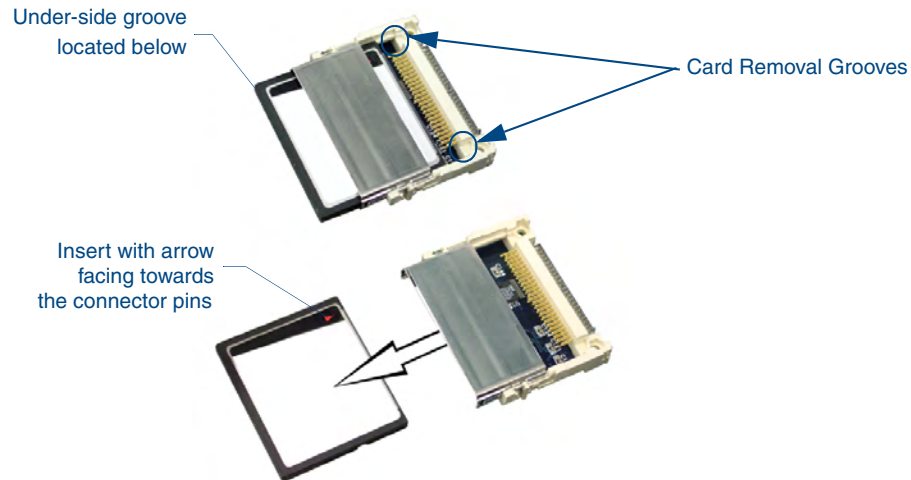

**FIG. 9** Location of the Compact Flash within a sample Integrated Controller
2. Remove the chassis housing screws from both the sides and top of the Controller, as shown in FIG. 9 by using a grounded screwdriver turning in a counter-clockwise rotation.
3. Carefully pull-up and remove the housing up and away from the Controller to expose the internal circuit board (FIG. 9).
2. Locate the 32 MB Compact Flash card on the main board. For more detailed information on component locations, refer to FIG. 9.
- Insert and secure the chassis housing screws back into their respective locations, as shown in FIG. 9 by using a grounded screwdriver.